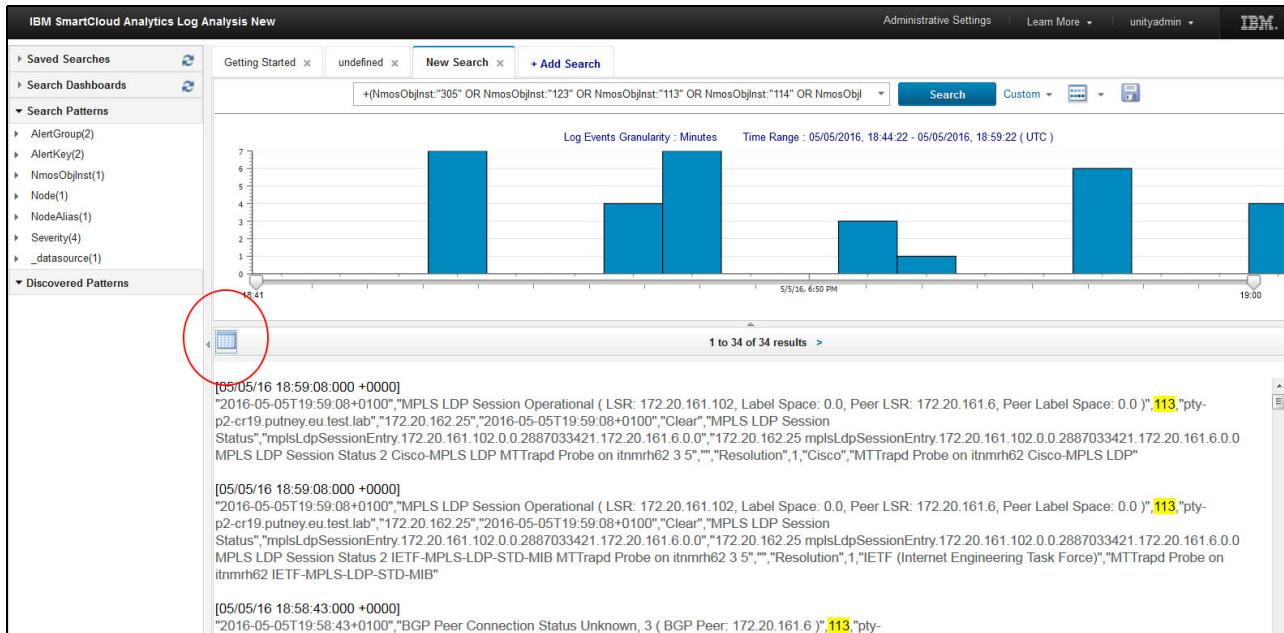

Figure 5-7 Identifying the problematic device on the Topology Map
9. After he displays the events on one of the routes, Tom clicks the **Grid view** icon and identifies which device is generating the highest severity alerts, as shown in Figure 5-7.